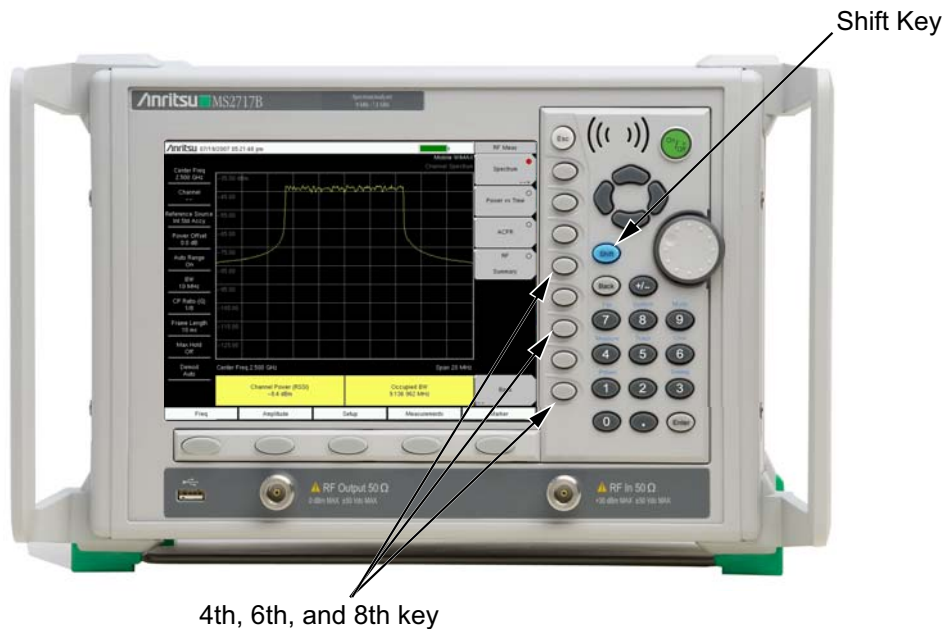

Figure 4-2. Entering Service Mode
3. Set the MS2717B to Spectrum Analyzer mode, then press **Shift** and press **Preset (1)** to preset the MS2717B.
11. Press and hold the **Shift** key and simultaneously press the 4th, 6th, and 8th soft keys (below the **Esc** key) in order to enter into the MS2717B Service Mode (Figure 4-2).